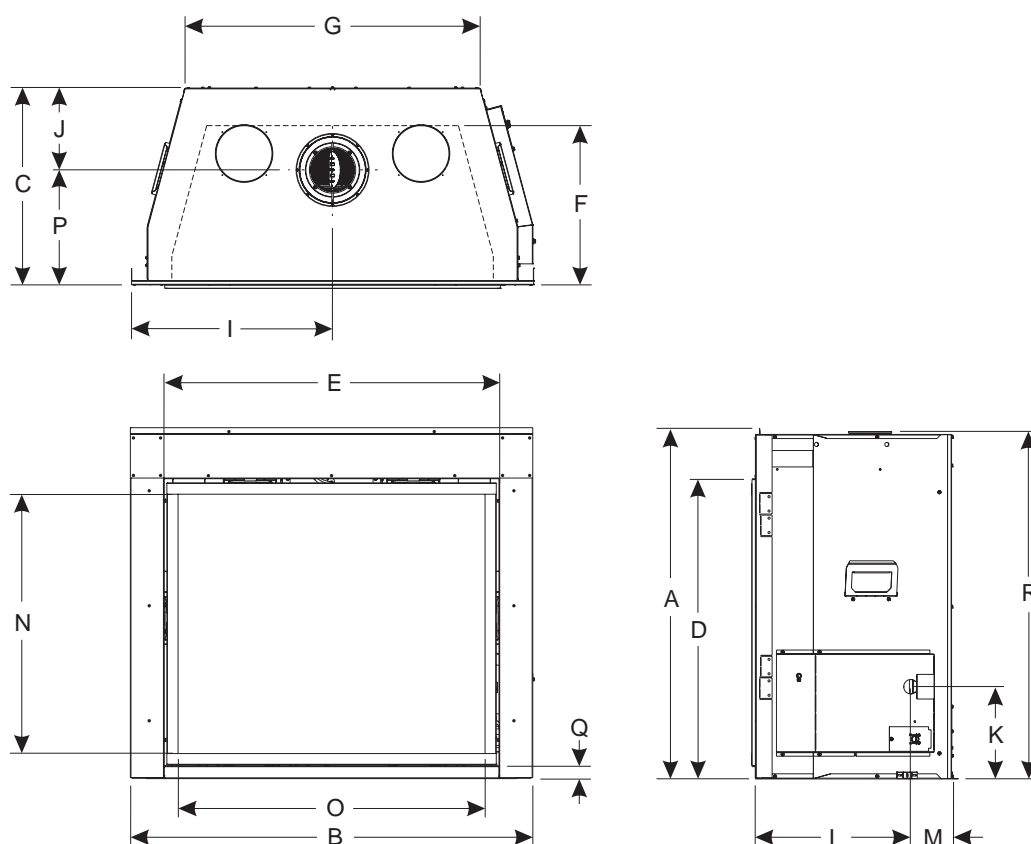

Figure 1
5. Replace Blower Access Panels removed in step 1. **See Figure 1.**